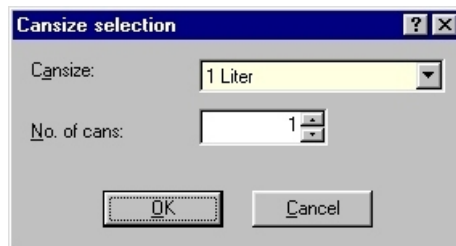

Figure 53
3. In the **Cansize selection** dialog box (Figure 53), choose the desired cansize from the **Cansize** list box. If necessary, the list box will have vertical scroll arrows.